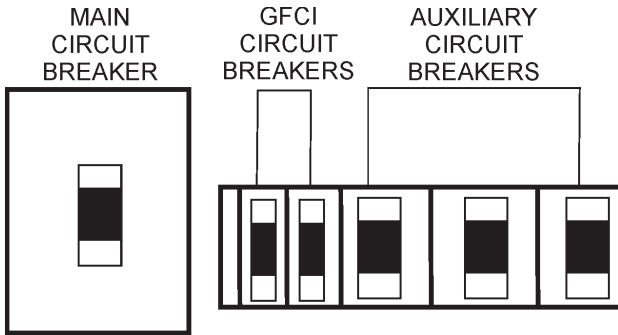

Figure 61. Main, AUX. and GFCI Circuit Breakers (OFF)
1. Switch the **MAIN**, **AUX** and **GFCI** circuit breakers (Figure 61) to the “**OFF**” position (no load).
1. To shut-down the engine in the event of an emergency, switch the **MAIN**, **GFCI** and **LOAD** (Figure 61) circuit breakers to “**OFF**” position.